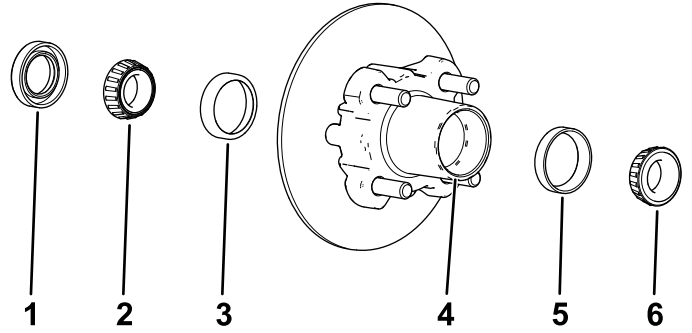

Figure 33
- Remove the outboard bearing and bearing race from the hub (Figure 33).
- Remove the seal, inboard bearing from the hub (Figure 33).
- Clean the cavity of the hub of all grease, dirt, and debris (Figure 33).
- Fill the cavity of hub 50 to 80% full of the specified grease (Figure 33).
- Assemble the inboard bearing onto the race at the inboard side of the hub and install the seal (Figure 33).